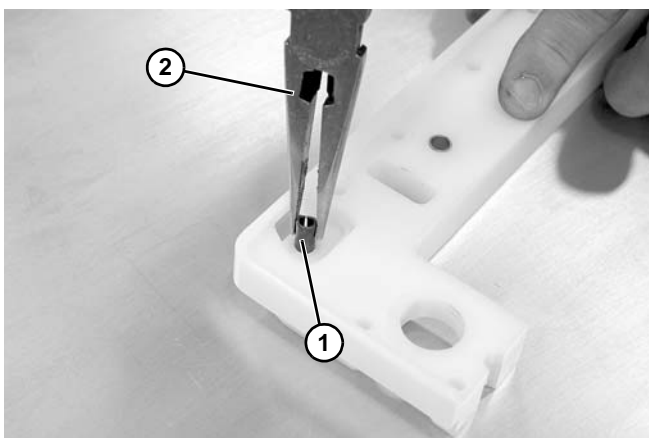

Figure 100
7. Remove roll pin (Figure 100, item 1) with needle nose pliers (Figure 100, item 2).